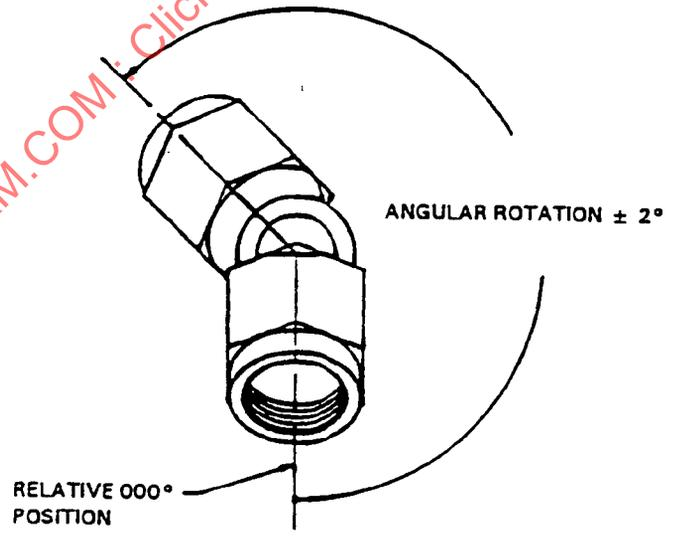

FIGURE 2
18. THE FITTING'S ORIENTATION DASH NUMBER IS A THREE DIGIT NUMBER DEFINING THE RELATIVE POSITION OF THE END FITTINGS IN 1° INCREMENTS (EXAMPLE 09D = 90°). FITTING ORIENTATION SHALL BE MEASURED COUNTERCLOCKWISE FROM THE NEAREST END FITTING, WHICH SHALL BE IN THE RELATIVE 000° POSITION (SEE FIGURE 2). WHEN END FITTINGS ARE POINTED IN THE SAME DIRECTION, THIS DASH NUMBER SHALL BE 000.